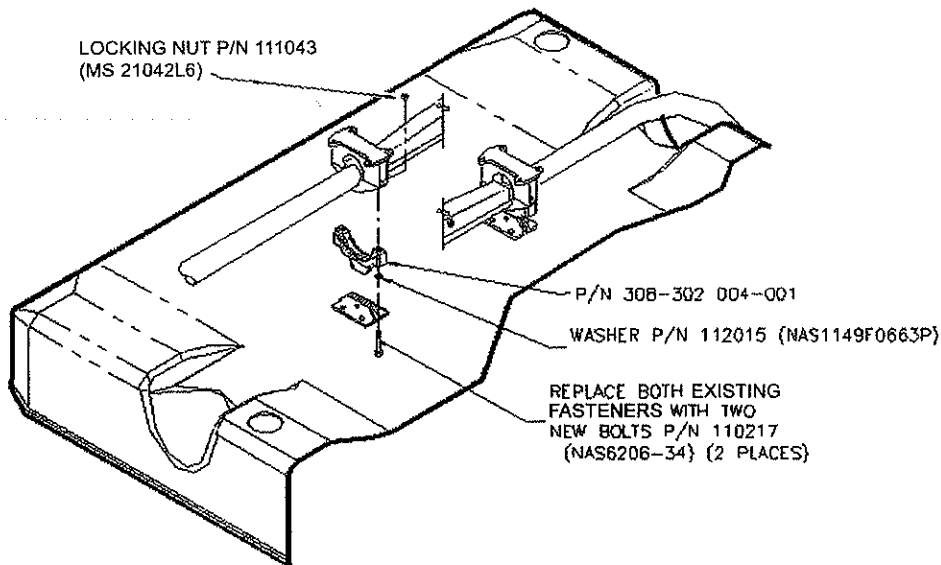

Figure 1-6, Aft Rotorcraft Attachment Fitting Installation
- a. Remove the two NAS6206-10 fasteners securing both aft cross tube straps. (Figure 1-6)